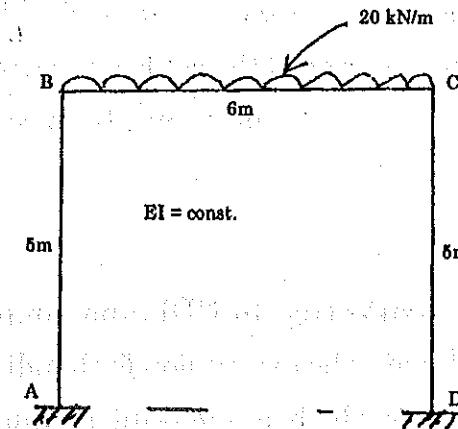

Fig. Q. 12 (b)
12. a) Analyze the continuous beam ABC shown in Fig. Q 12(a) by stiffness matrix method and also draw the shear force diagram.
- b) Analyze the portal frame ABCD shown in Fig. Q 12 (b) by stiffness matrix method.